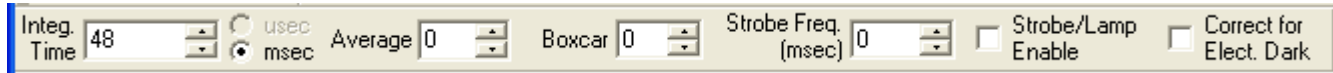

Figure B-1: The Acquisition Parameters Toolbar.
6. Enter the desired delay value in the Strobe Freq. box (See Figure B-1 on the following page).
8. Enable Single Strobe output by checking the Strobe Enable check box (See Figure B-1 on the following page).